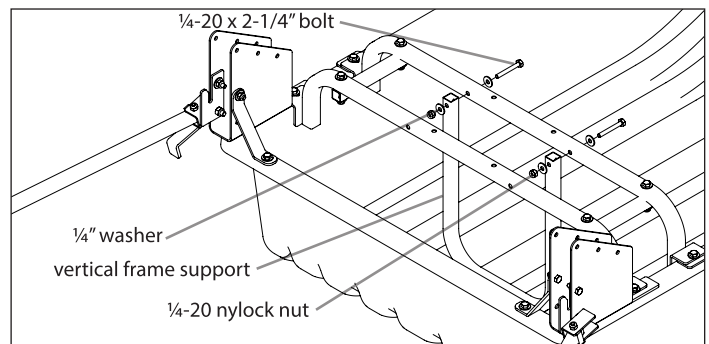

FIGURE 3
5. Attach the (1) vertical frame support (11305) using (2) 1/4-20 x 2" bolts, (4) 1/4" washers, and (2) 1/4-20 nylock nuts. **SEE FIGURE 3**